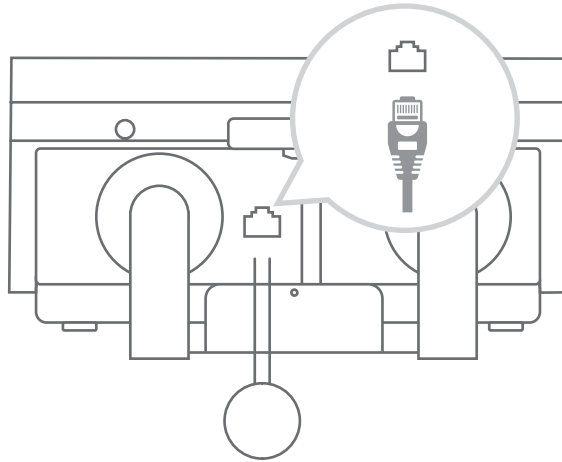

Fig. 4-18
2. Insert the RJ45 plug into the network port. (See Fig. 4-18)